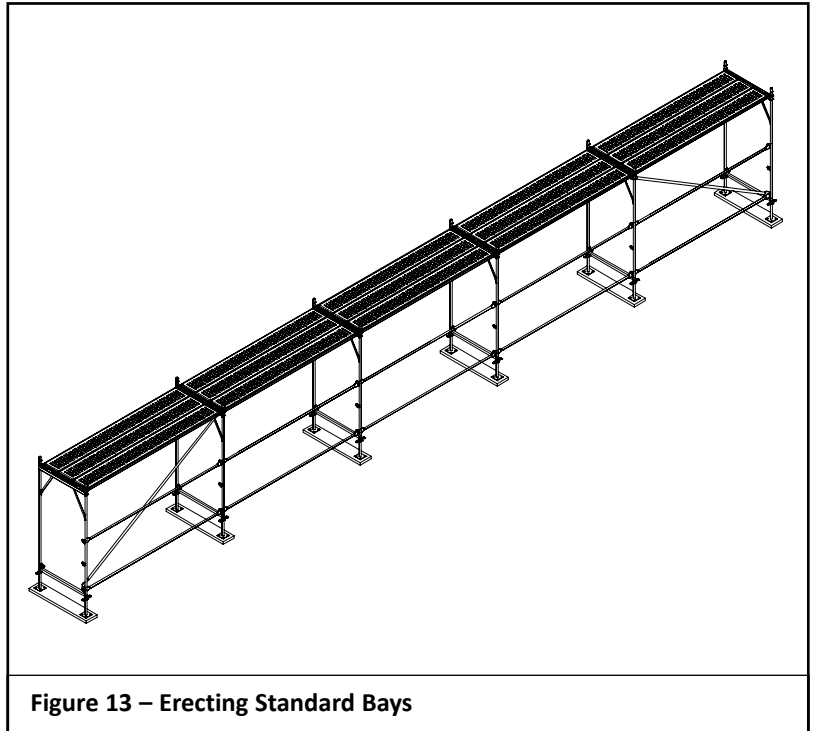

Figure 13 – Erecting Standard Bays
- When repeating the pattern along the run, alternate the brace direction (Fig. 13).
- Horizontal bracing must be installed along the entire run at the base and repeated at the top guardrail stud level (Fig. 13).
- Tie the newly installed frame to the run by installing a rail (MXGR_ or SLGR_) between the top guardrail drop lock studs on the frames (Fig. 13).